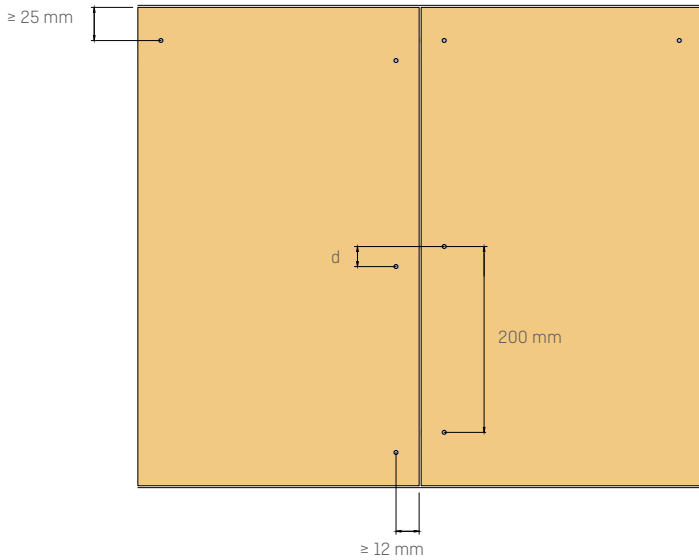

FIGURE 20: Fixing the panels to the metal profiles
4.2. Attaching the panels to the metal structure of all profiles using screws spaced no more than 200 mm apart (MDF panels should be pre-drilled at a diameter 1 mm less than the diameter of the screw) or using double-sided adhesive tape. (fig. 20)